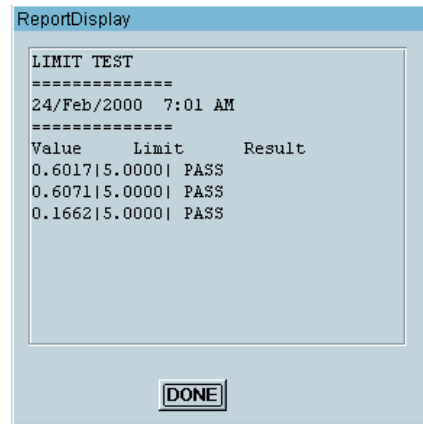

Figure 196 The ReportDisplay Panel View
Figure 196 shows the panel view of the ReportDisplay UserFunction with Show Panel on Execute selected in the Properties box. In the Properties box, the Pop-up Panel Title has also been changed to ReportDisplay. To create the panel, select the Confirm (OK) and Logging AlphaNumeric objects, and click **Edit** ⇒ **Add to Panel**. Note that the Logging AlphaNumeric display has Show Title Bar deselected. Note also that Confirm (OK) button has been renamed DONE. The Confirm (OK) button is included to keep the display on the screen until the user is done viewing it.
- 3 Run the program and the ReportDisplay panel should pop up and display the values as shown in Figure 196. Click on **DONE** to complete execution. Then save the program as **Report.vee**.